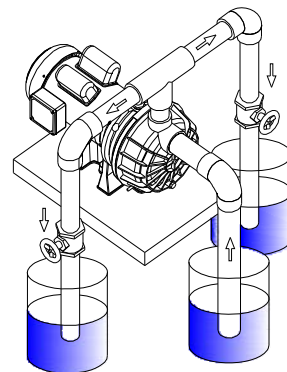

Figure 3
1. Connect suction pipe to drive point (See Figure 3). Keep horizontal pipe run as short as possible. Use PTFE tape on male pipe threads. Multiple well points may be necessary to provide sufficient water to pump.